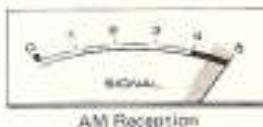

Fig. 13
2. Turn the TUNING knob to select your station. Best reception is obtained when the SIGNAL meter needle deflects to the extreme right (Fig. 13).